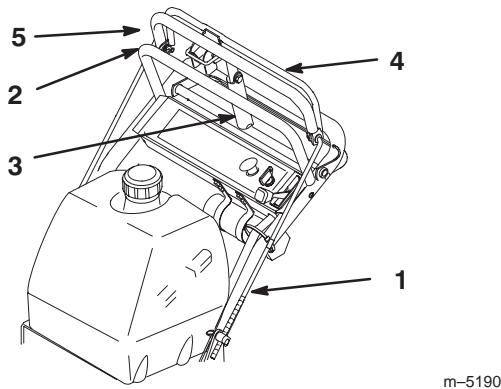

Figure 8
- Check the gap between upper control bar and fixed bar with wheel drive fully engaged. Gap should be approximately 1 to 1-1/4 in. (25–32 mm) (Fig. 8).